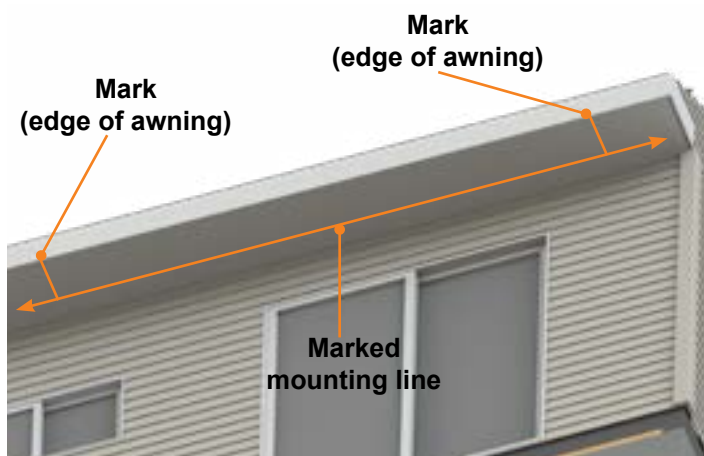

Fig.36
5. Mark the left and right ends of the awning on the mounting line (Fig. 36).